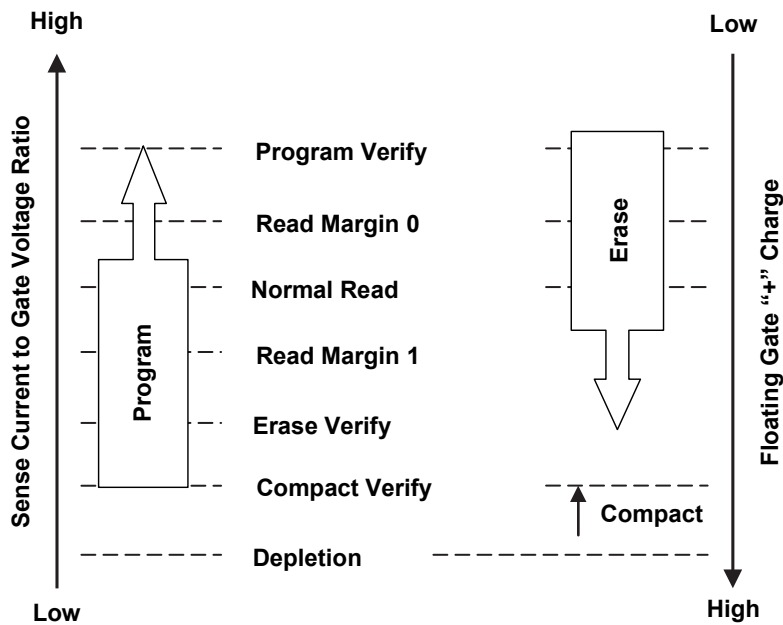

Figure 4. Flash Cell 0/1 Threshold in Different Reads
- Read – Accessing the contents of a Flash memory. It can either be a 1 or 0. It is done by applying voltage on the control gate and sensing the drain current (I_{Flash}). Normal read, erase verify, program verify, and read margin tests are all variations of read. They are differentiated by the control gate voltage and the threshold of the drain current to determine logical 0 and 1. The current/voltage ratio threshold of different reads are sequenced as shown in Figure 4, where depletion means over-erased, the transistor is always on: